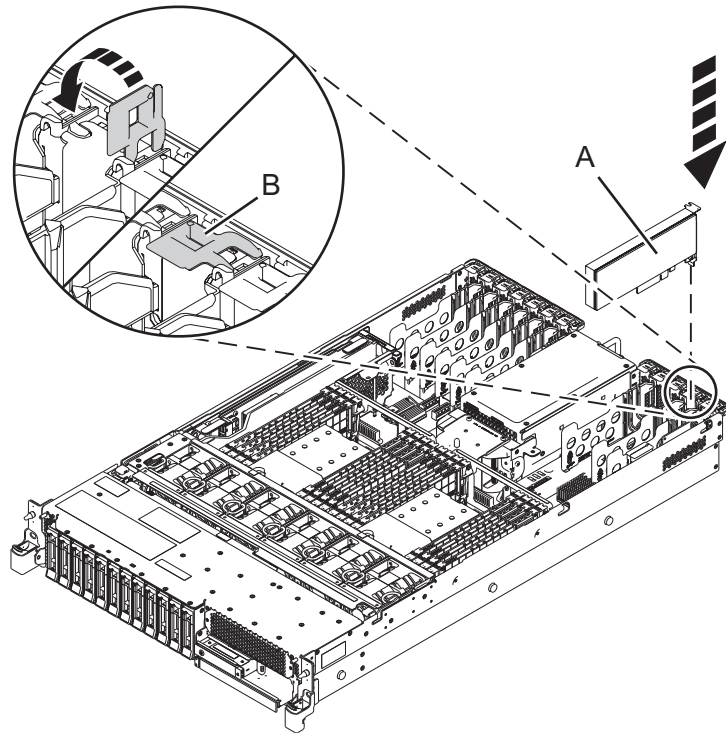

Figure 9. Installing or replacing a PCIe adapter in the 5148-21L, 5148-22L, 8247-21L, 8247-22L, 8284-21A, or 8284-22A system
7. If the adapter latch (**B**) at the target slot is not already in the open position, pull the latch into the open position by rotating the latch outwards from its clip on the back of the system, as shown in Figure 9 on page 16.
8. Carefully grasp the adapter by its top edge or tailstock, and align the adapter with the slot and its connector on the system backplane (**A**), as shown in Figure 9 on page 16.
10. To lock the adapter in its slot, rotate the adapter latch (B) in the direction that is shown in Figure 9.